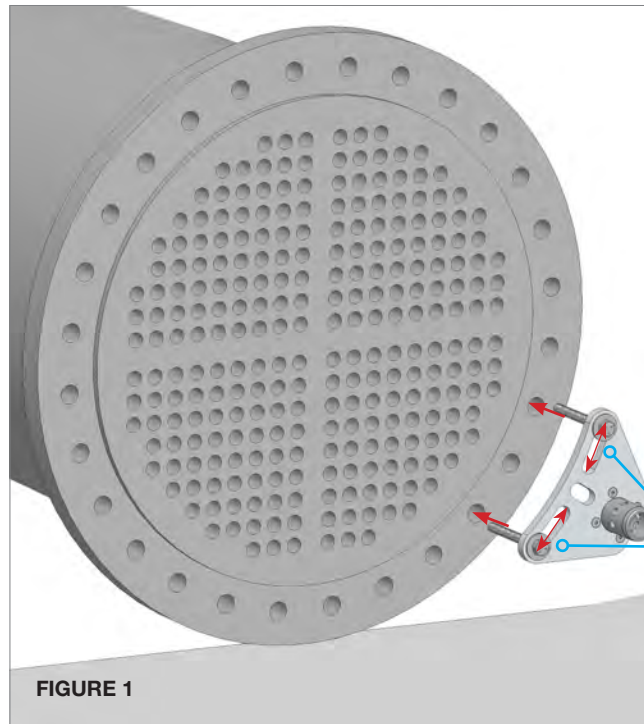
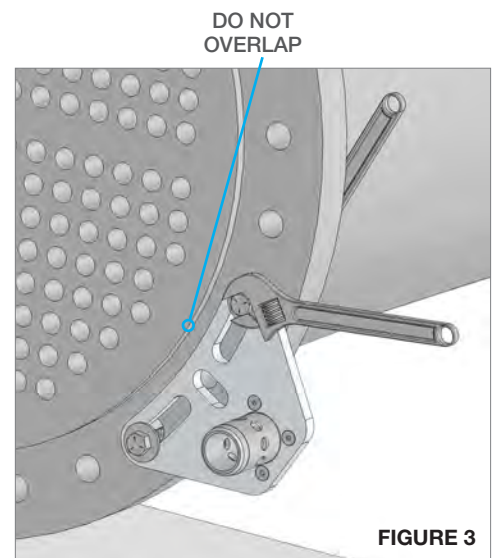

FIGURE 1
FIGURE 3
1. Install the Mounting Bracket onto the tube face. The best location for ease of set-up is in the lower right hand quadrant of the exchanger as shown in **(Figure 1)**. However, the COMPASS Positioner can be mounted in any of the bolt hole positions around the flange. The bracket has three mounting points. The two outside points are adjustable.
2. Insert a 5/8" x 6" Bolt with Flat Washer through each Adjustable Slot on the Mounting Bracket and holes on the exchanger Flange. Install Flat Washers and Hex Nuts on the end of each bolt. **(Figures 1 & 2)**
**TECH TIP:** (2) 5/8" x 6" bolts are provided for convenience, but any bolts smaller than 1" or 25mm in diameter can be used.
3. Be sure the Mounting Bracket Plate sits flat on the flange and does not overlap the ridge of tube face. Fasten in position with two adjustable end wrenches. **(Figure 3)**